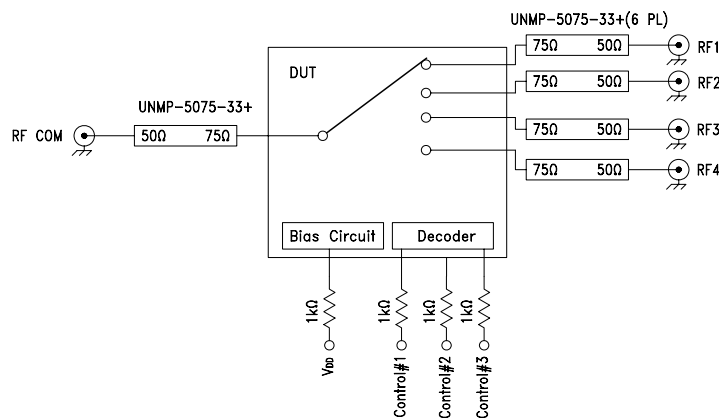

Figure 1: Block Diagram Of Test Circuit Used For Characterization.
- As measured in Mini-Circuit's test board TB-722-4-F+ (see Characterization Test Circuit, Fig.1).